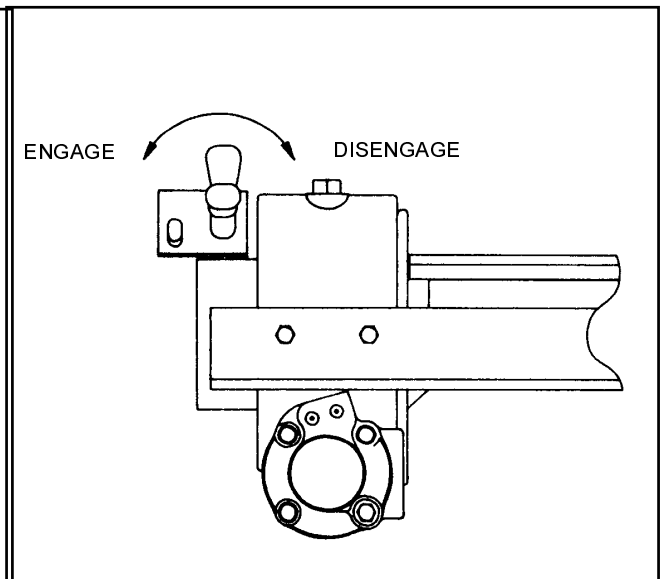

Figure 3-7 20,000# Winch Clutch
b. The **20,000 lb WINCH CLUTCH HANDLE** has two positions. (See **Figure 3-7**).